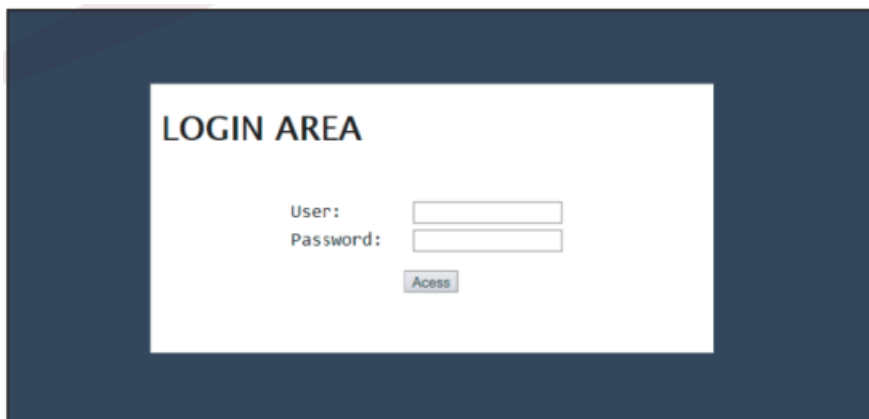

Figure 4 – DynaGateway access screen
3. On an internet navegador, access the address: 192.168.10.1. The system will request login information in order to access the DynaGateway configuration page (Figure 4).